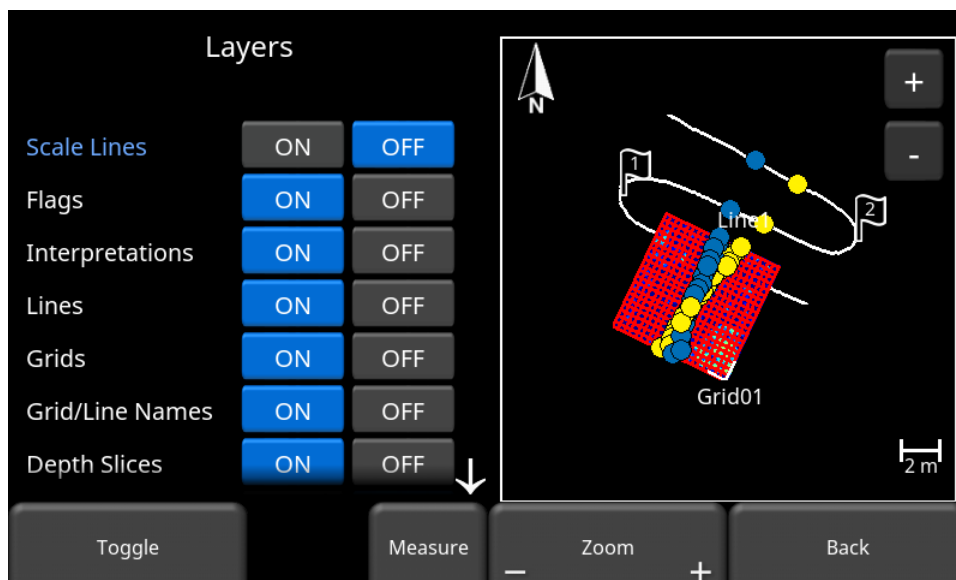

Figure 9-4: Scale Lines turned off
- **Scale Lines** – controls the display of the background grid lines (Figure 9-4). These are used as scale reference.